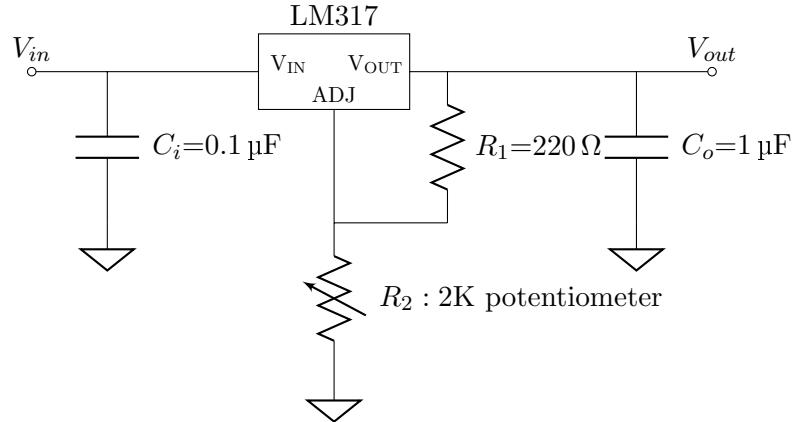
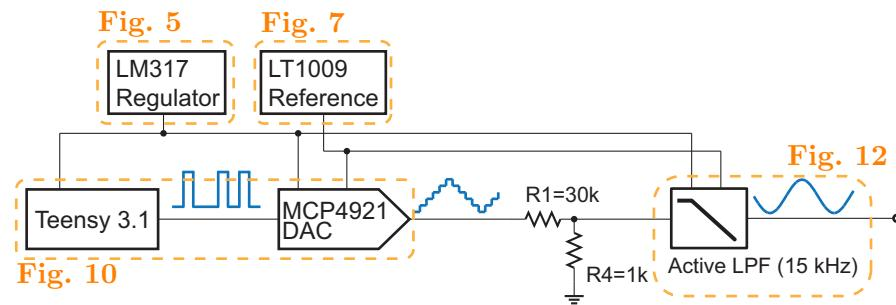

Figure 5: Schematic of the voltage regulator circuit using LM317.
Figure 15: Block diagram of the PCB design.
1. Using Fig. 5 as a reference, build the regulator circuit on the breadboard. You should be able to find the LM317 pinout diagram from its datasheet, which you find from online. *As a general suggestion, it is important to keep your circuit well laid out and keep the connecting wires as short as*
Design a PCB incorporating the circuits of Fig. 5, 7, 10, and 12. We will add a resistive attenuator circuit just so that the output does not easily saturate. Fig. 15 shows a high level block diagram of the PCB.